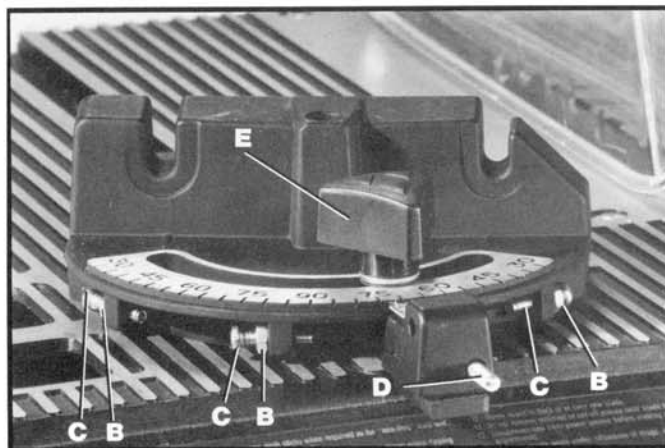

Fig. 26
This miter gage is equipped with individually adjustable index stops at 90 degrees and 45 degrees right and left. Adjustment to the index stops can be made by loosening lock nuts (B) Fig. 26, and tightening or loosening the three adjusting screws (C) until they contact the other end of stop pin (D) when the miter gage is at 90 and 45 degrees to the saw blade.
To operate the miter gage, simply loosen lock knob (E) Fig. 26, and move the body of the miter gage to the desired angle. When the stop pin (D) is pushed in, the miter gage body will stop at 90 degrees and 45 degrees right and left. To rotate the miter gage body past these points, pull out stop pin (D).